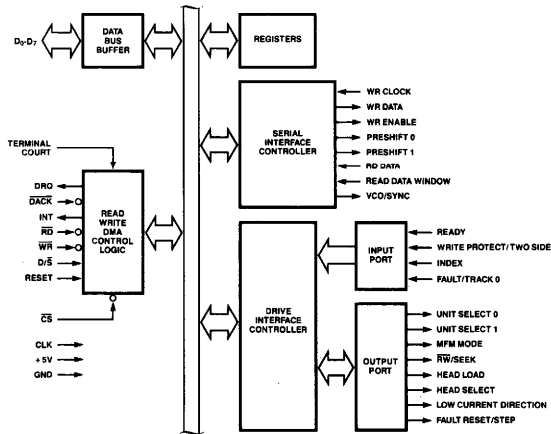

Figure 1. Z785A FDC Block Diagram
The Z765A is an LSI Floppy Disk Controller (FDC) chip which contains the circuitry and control functions for interfacing a processor to four floppy-disk drives. It supports IBM System 3740 Single Density format (FM) and IBM System 34 Double Density format (MFM) including double-sided recording. The Z765A provides control signals which simplify the design of an external phase locked loop and write precompensation circuitry. The FDC simplifies and handles most of the burdens associated with implementing a floppy-disk interface. (Figure 1).